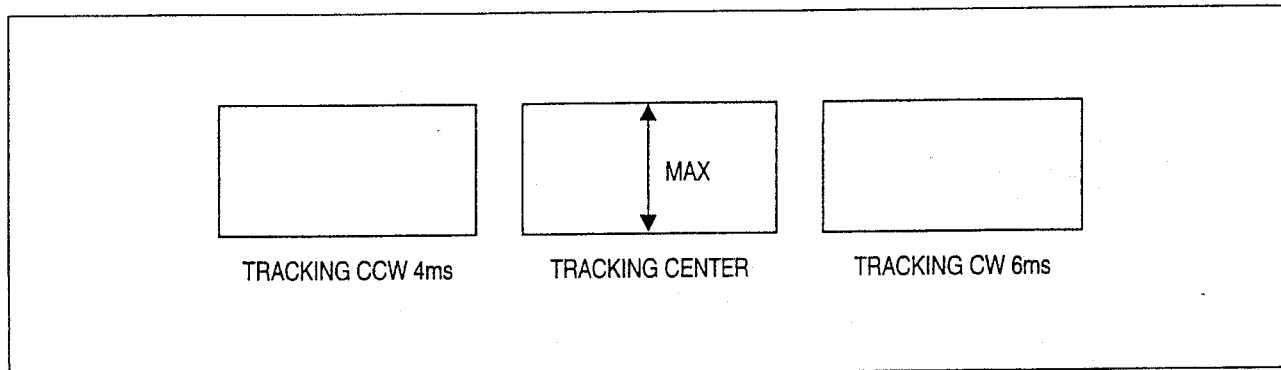

Fig. 5-13
- D. Play back the DN-2E TEST TAPE (EP MODE) and check whether there is the nature of direction as shown Fig. 5-13.